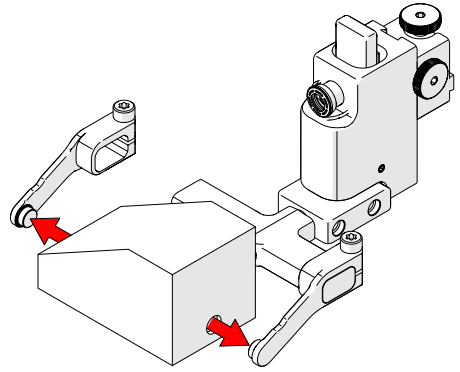

Fig. 131 - Align probe with pivot buttons
4. Align the pivot button holes of the probe with the probe holder arms (Fig. 131).